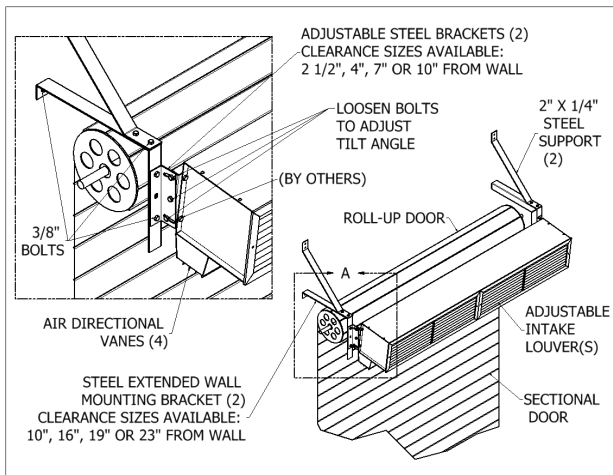

FIG. 6 (STD Shown)
AC Unit) installed per their supplemental instructions. (FIG. 6)
2. Adjustable Mounting Brackets: For installation of air curtain over drum-style roll-up door, use Extended Wall Mounting Brackets. (FIG. 6)